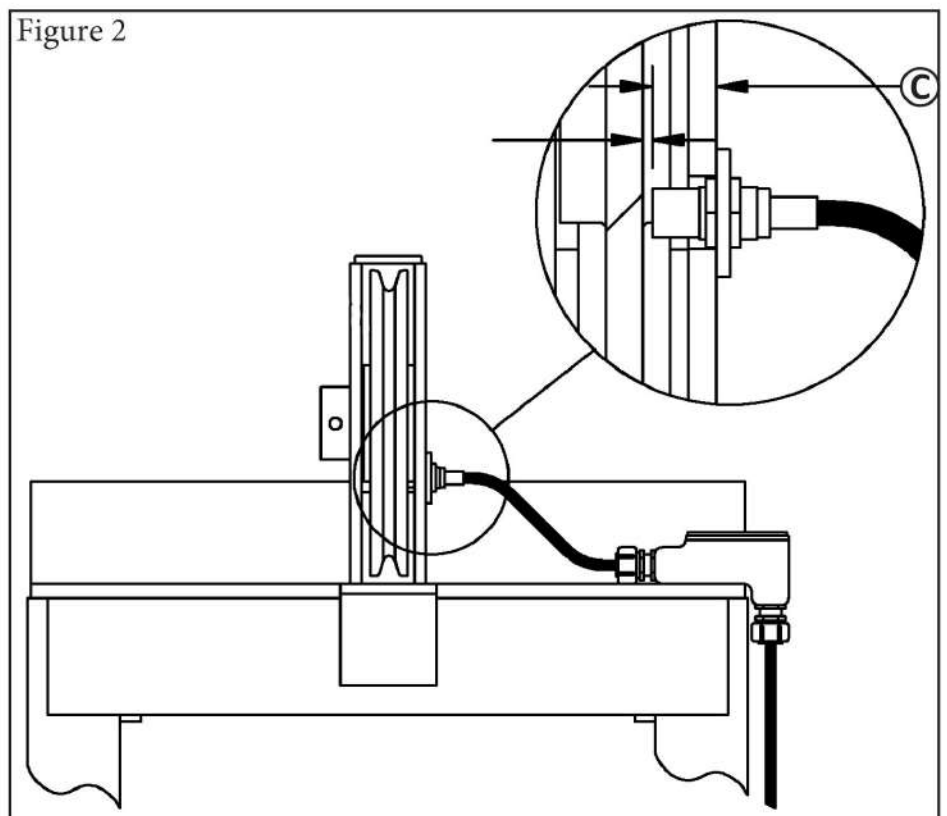

Figure 2
6. Determine sensor distance (dimension C) (Fig. 2):